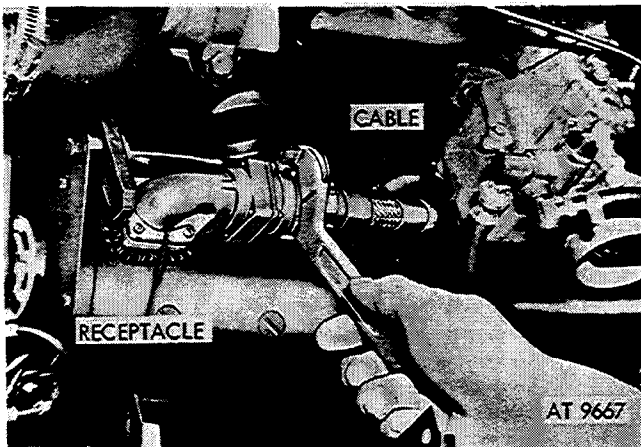

Figure 2-172. Disconnect regulator cable at generator receptacle.
*a. Removal.* Procedures (1) through (6) below give operations for removing generator assembly and for removing pulley from generator.
(1) Remove air cleaner (para. 2-44). Loosen generator and remove drive belts (para. 2-64).
(2) Using spanner wrench, disconnect generator-to-generator regulator cable at generator receptable (fig. 2-172).